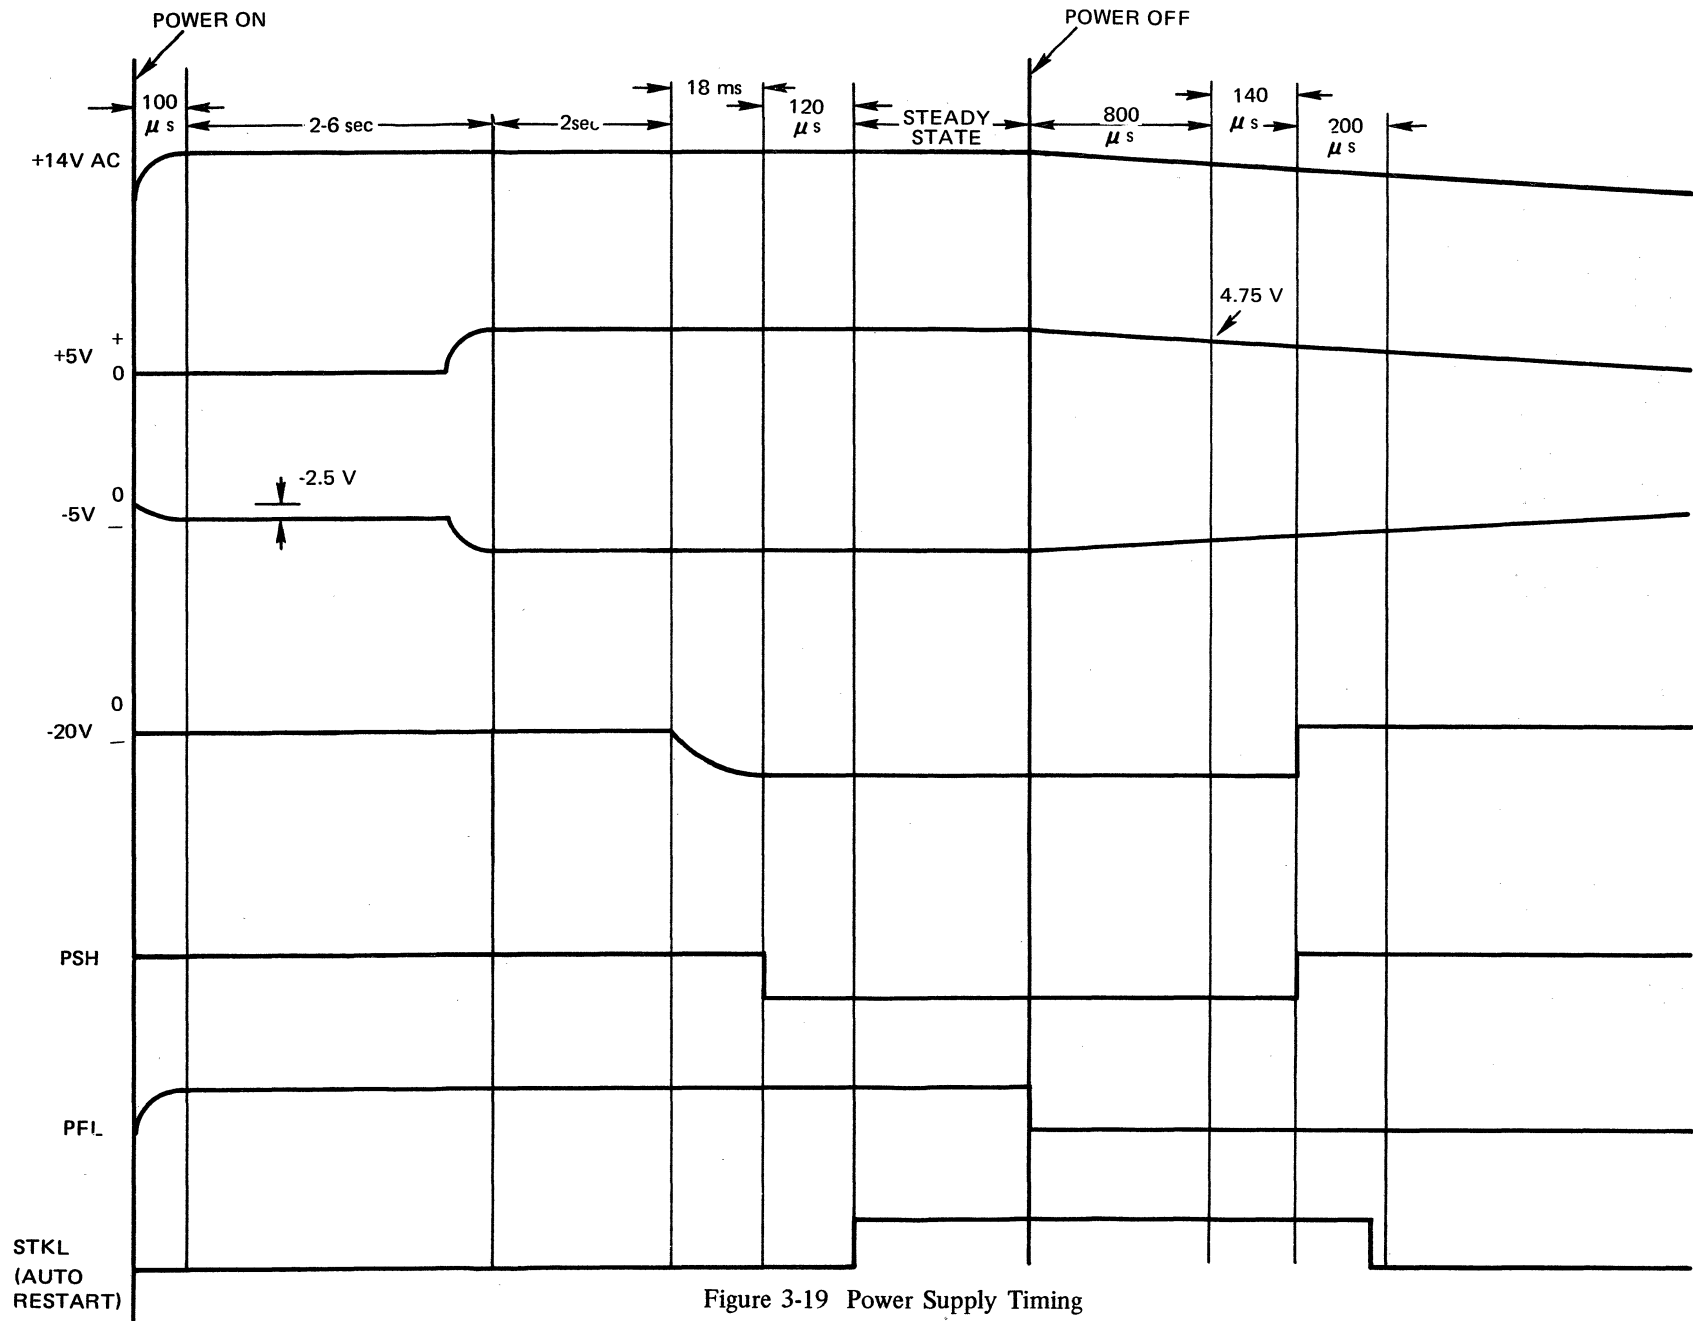

Figure 3-19 Power Supply Timing
The power-up sequence (see Figure 3-19) is as follows:
3.9.4.1 Normal Turn-Off — The normal turn-off sequence (see Figure 3-19) is as follows: